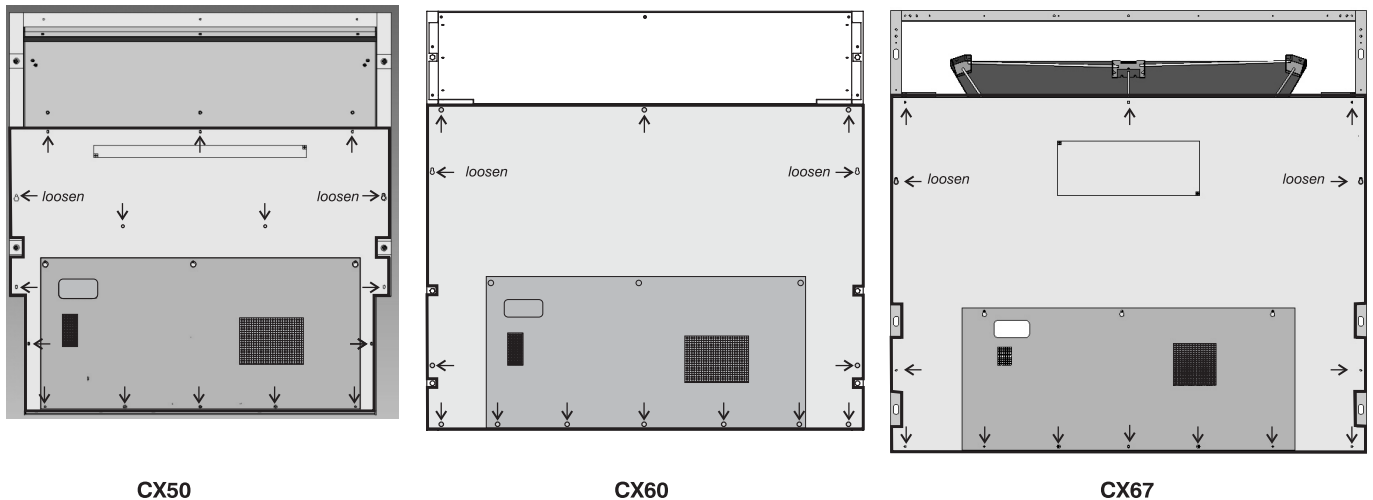

Figure 4.
2. Remove the rear access panel. (Figure 4.)